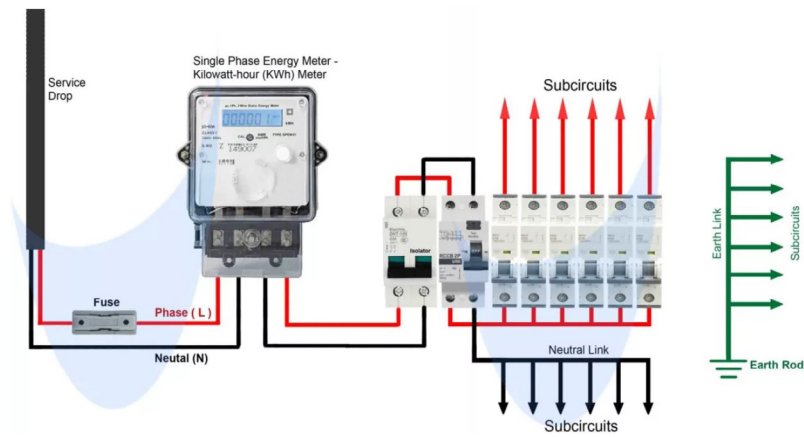

Figure 3.19: Wiring diagram of the consumer unit (with 6-way DB)
4. 6-way Distribution Board (As shown in part of *Figure 3.19*)
Learners are to observe how a consumer unit as indicated in the following diagram (*Figure 3.19*) is wired so they can equally carry that out
The following diagram (Fig 3.19) is how the consumer control unit is to be wired